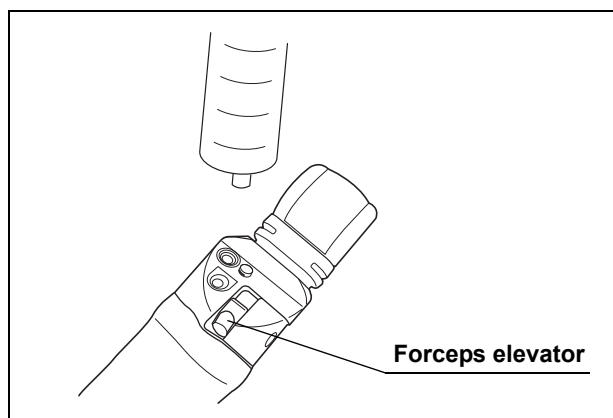

Figure 7.31
2. With the forceps elevator raised, flush the interior of the forceps elevator with detergent solution using the 30 cm³ (30 ml) syringe (see Figure 7.31).